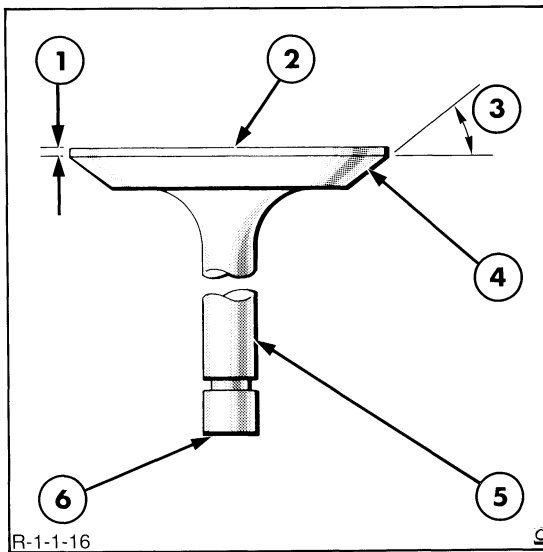

Figure 16
1. The critical inspection points of the valves are shown in Figure 16. Inspect the valve face and the edge of the valve head for pits, grooves, scores, or other defects. Inspect the stem for a bent condition and the end of the stem for grooves or scores. Check the valve head for cracks, erosion, warpage, or burn. Minor defects such as small pits or grooves, can be removed. Check the valve tip for pits or grooves and replace the valve if such a condition exists. Discard valves that are severely damaged.
4. Any valve refacing operation should be closely coordinated with the valve seat refacing operation so that the finished angle of the valve is 0,5° less than the valve seat to provide an interference angle for better seating. Adjust the valve refacing tool to obtain a face angle of 45,5°, Figure 16.